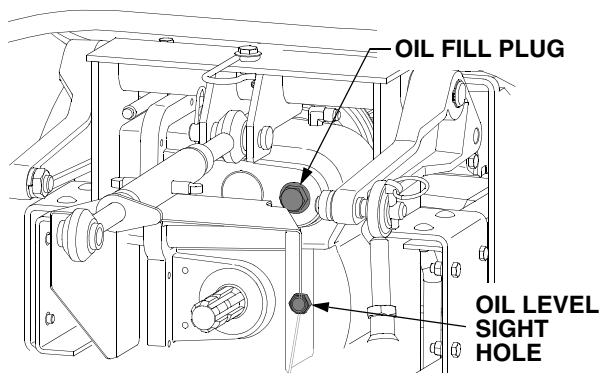
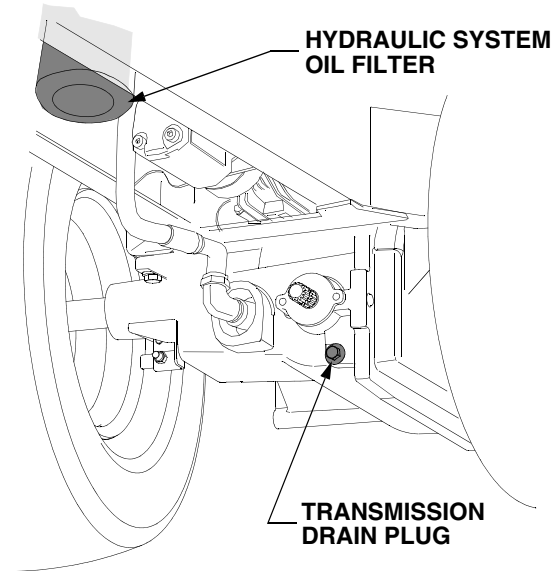

Figure 43
Figure 45
The oil level sight glass is located in the rear of the transmission housing, just to the right of the rear PTO shaft. Refer to Figure 43.
- Locate the oil fill plug on the upper right of the rear of the transmission housing. See Figure 43.
- The hydraulic system oil filter is remotely mounted in the vertical position between the tractor frame rails. See Figure 45.
- Position a suitable container below the hydraulic system filter. See Figure 45.
- Clean the area around the transmission oil fill plug to prevent debris from entering the transmission (Refer to Figure 43) and remove the plug.
- Clean the area around the transmission drain plug and the oil fill plug to prevent debris from entering the transmission. Refer to Figure 43 and Figure 45.
- Remove the oil fill plug to help vent the transmission, then remove the drain plug and allow the transmission oil to drain into the container(s). Reinstall the drain plug after draining the oil. Refer to Figure 43 and Figure 45.